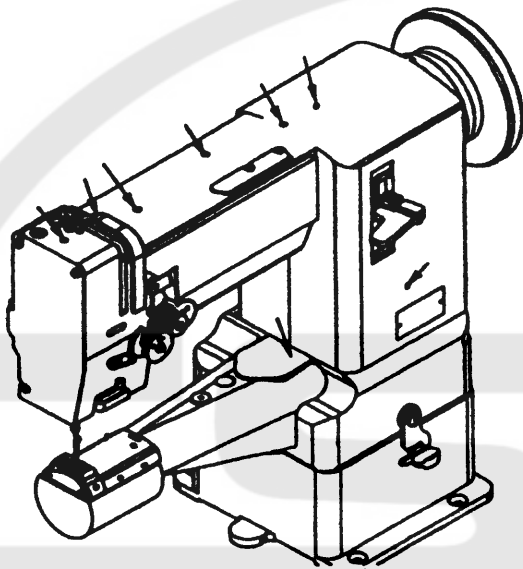
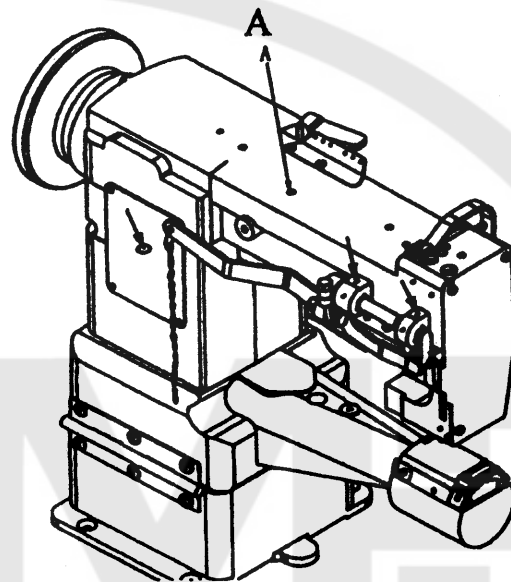
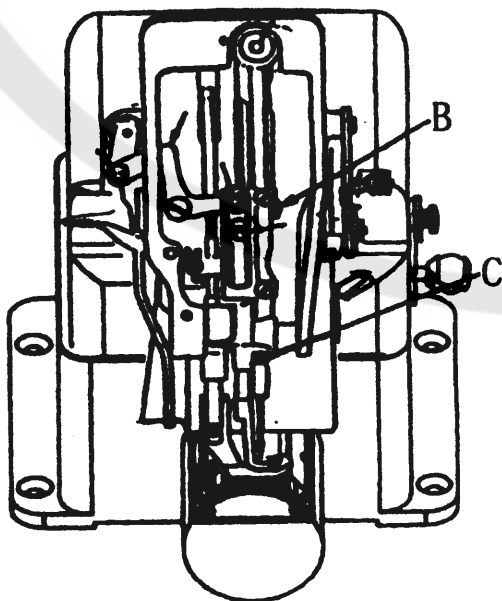
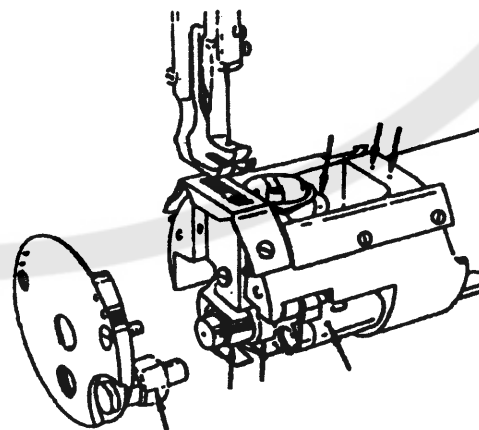

Fig.1
Fig.2
Fig.3
Fig.4
(3) Lubrication (fig.1、fig.2、fig.3、fig.4)
11.ADJUSTING THE PRESSURE OF PRESSER FOOT: (Fig.2)
Pressure of the presser foot can be adjusted by turning the pressure regulating thumb screw (fig. 2 A) .
When the needle bar is at its highest position, normally the measurement between the surface of the needle plate and the upper end of the needle eye is 22.3mm. You can adjust this at its lowest position. In this case, normally the measurement between the surface of the needle plate and the upper end of the needle eye is 11mm. To adjust this, loosen screw (B.fig.3), and raise or lower the needle bar as may be required. Then tighten the screw.